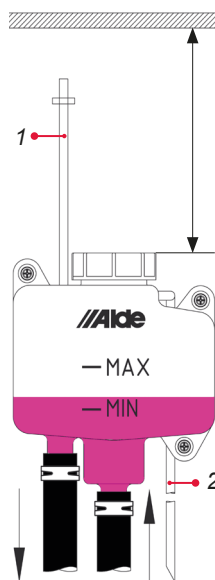

Fig. 14, Correct glycol level in the expansion tank in a cold heating system
The correct glycol fluid level in the expansion tank is little above the MIN mark of the expansion tank in a cold heating system, and at the MAX mark in a warm system. (Fig. 14).
4. Examine the glycol fluid level in the expansion tank. Add glycol mixture if the level is low. The correct glycol fluid level in the expansion tank is little above the MIN mark of the expansion tank in a cold heating system, and at the MAX mark in a warm system. (Fig. 14).